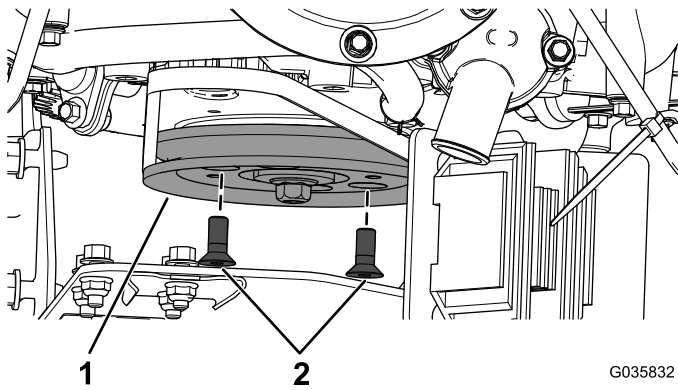

Figure 7
2. Install the alternator pulley to the motor with the 2 hex socket flat head screws (M8 x 20 mm) as shown in Figure 7.